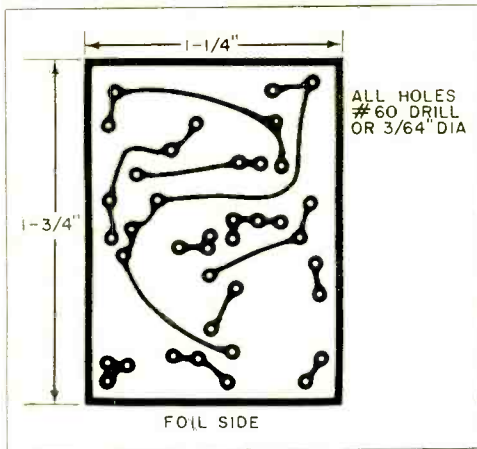
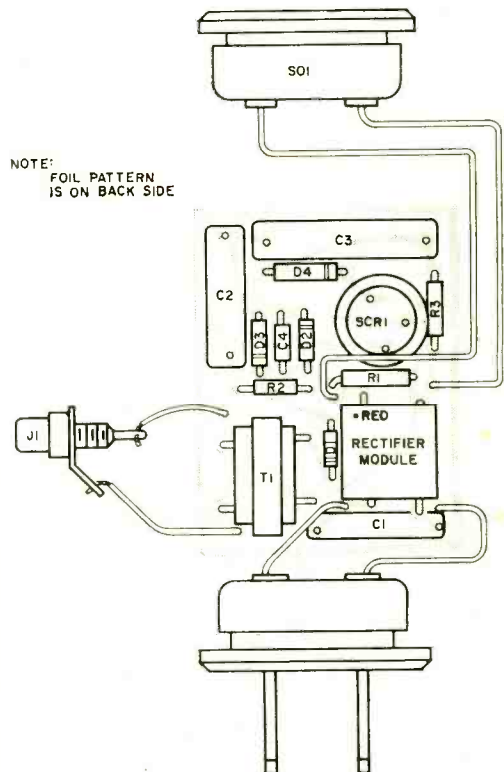

Fig. 2. Printed circuit board is shown actual size to help you make your own. However, almost any suitable chassis or breadboard arrangement can be used.
Fig. 3. Mount the jack and sockets in the case before connecting them to the circuit. If space is not a factor you can add more features. See text.
**Construction.** Start construction by laying out and etching the printed circuit board shown in Fig. 2. Drill holes and mount components as shown in Fig. 3. Watch the polarity—one wrong connection can destroy the semiconductors.